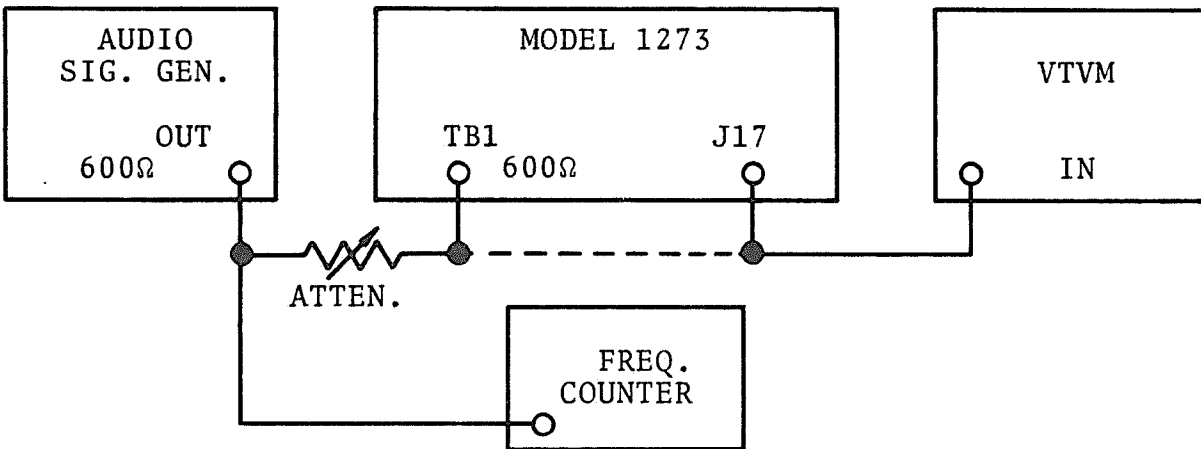

Figure 5-1. Test Setup, Mark/Space Bandpass Filter Operational Check
1. Set up the equipment as shown in Figure 5-1, with the signal generator connected to pins 12 and 13 of TB1 and the VTVM connected as shown by the dotted line.
1. Set up the equipment as shown in Figure 5-1, with the signal generator connected to pins 12 and 13 of TB1 and the VTVM connected as shown by the dotted line (the LIMIT MODE push-button should be in the out position).
4. Reconnect the VTVM as indicated by the dotted line in Figure 5-1 and set the signal generator to produce a mark tone at a level of -10 dbm.
1. Set up the equipment as shown in Figure 5-1.